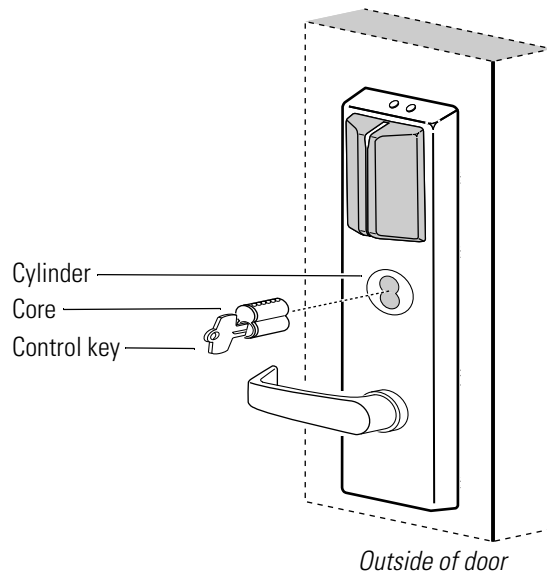

Figure 8.5 Removing and reinstalling the core
1. Insert the control key into the core and rotate the key 15 degrees to the right.
2. With the control key in the core, insert the core into the cylinder as shown in Figure 8.5.
3. Rotate the control key 15 degrees to the left and withdraw the key.